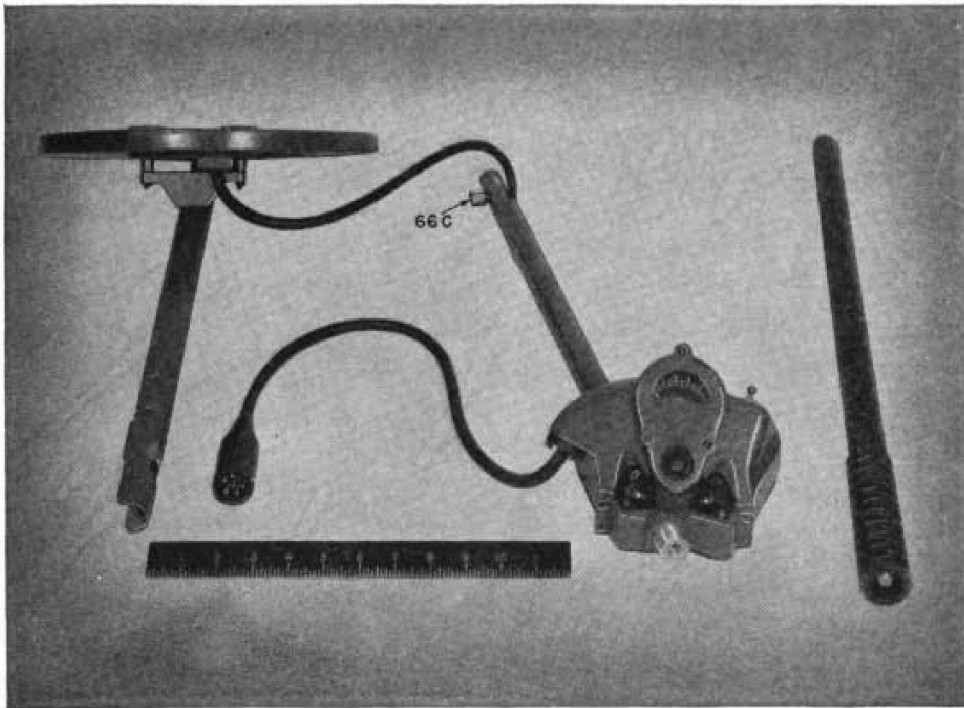

Fig. 5 Exploring Rod Assembly
a. The exploring-rod assembly consisting of the Search Coil C-446-(*), Control Box BC-1140-(*), and Handle M-350-(*). Control Box BC-1140-(*) contains the visual indicating meter, test button, two compensator knobs, coarse compensator and an ON-OFF switch. (Fig. 5.)
c. Rigid attachment of the search coil to the control box assembly (see fig. 5) is made by means of a bayonet joint and a thumb nut (66c).